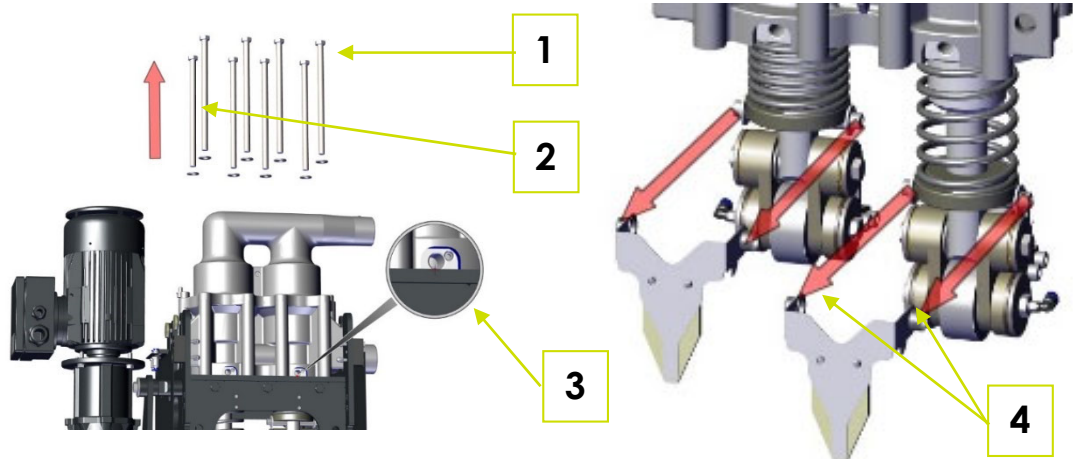

Fig. 7-1: Detaching the pump unit
1. Dismount the lubricating rocker (5) from the M8 x 12 fillister head screws (4) by bending it up slightly and take it out in the direction of the arrow (Fig. 7-1: Detaching the pump unit). Item number of the lubricating rocker
2. Unscrew all eight hexagon screws M12x220 (1) and washers (2) with a 19 mm ring spanner (Fig. 7-1: Detaching the pump unit).
3. Unscrew all four threaded pins M6x20 (3) two turns with a 4 mm Allen key.